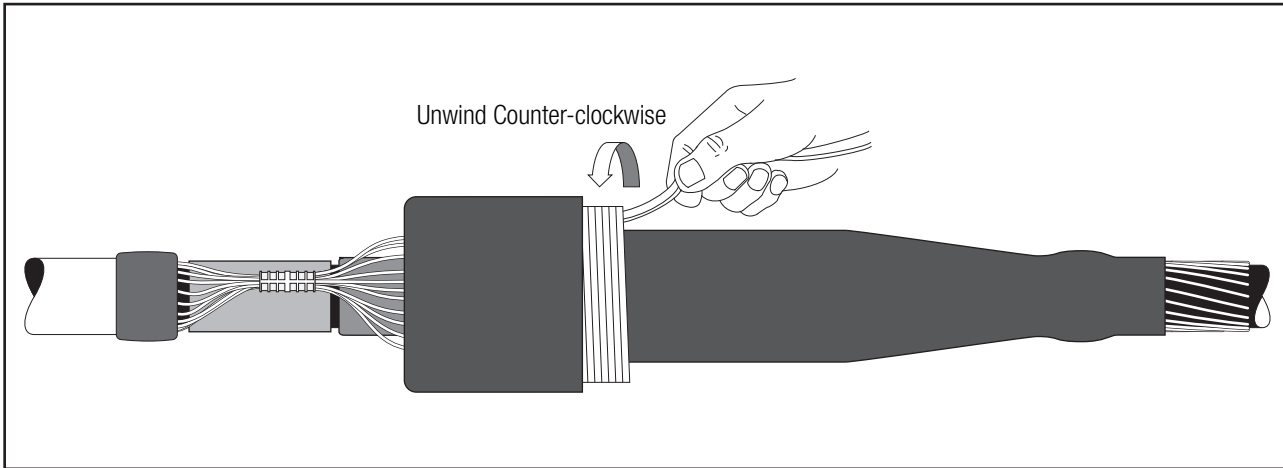

Figure 47
12.3 Continue to install the cold shrink tube over the rubber mastic on the other cable by slowly pulling and unwinding the outer core counterclockwise. This portion of the cold shrink tube installs differently than typical cold shrink products in that as the tube shrinks, the end rolls under. The tube may need a slight push to get over the second mastic seal (*Figure 47*).